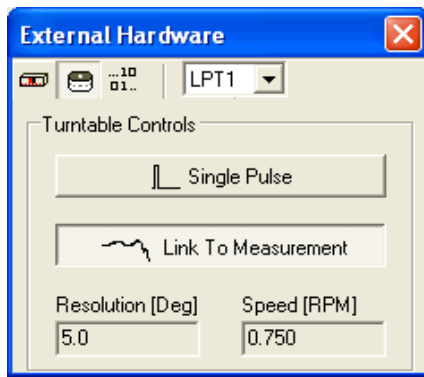

Figure 12.12
- 3) Recall the turntable control dialog (Fig.12.12), set Resolution at 5° , Speed at 0.75 RPM and press Link To Measurement